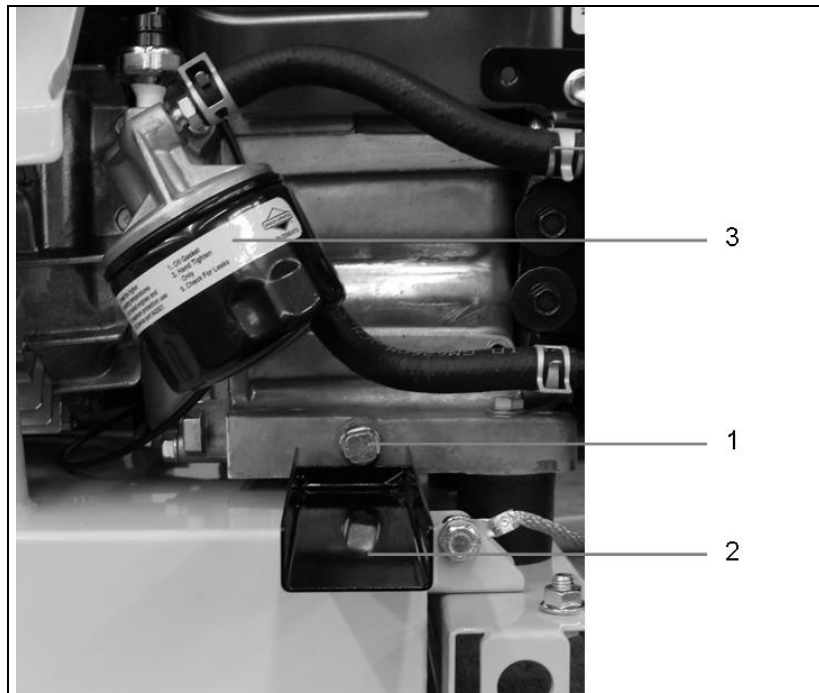

Fig. 6-3: Change the oil
3. Mount the oil drainage trough (Fig. 6-3-(2)).
5. Unscrew the oil drainage screw (Fig. 6-3-(1)) and allow the oil to drain completely.
When changing the oil filter (Fig. 6-3-(3)), proceed as described in the engine manual.